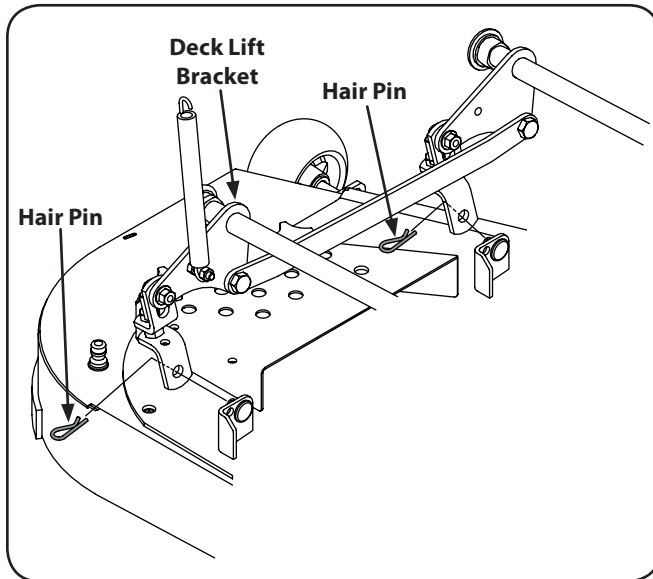

Figure 7-3
- Remove the four hair pins from the right and left side of the deck lift bracket. See Fig. 7-3.